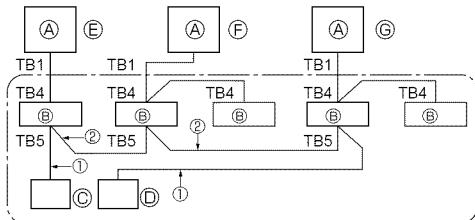

Fig. 9-1
- ③ Because the unit automatically stops in about two to three minutes after the refrigerant collecting operation (LED1 and LED2 are lit), be sure to quickly close the gas stop valve. When LED1 and LED2 are lit and the outdoor unit is stopped, open the liquid stop valve completely, and then repeat step 2 after three minutes have passed.
- ④ Turn off the power supply (circuit breaker).
9. System control (Fig. 9-1)
- ⑤ SW 1 - 3 ~ 6 ON